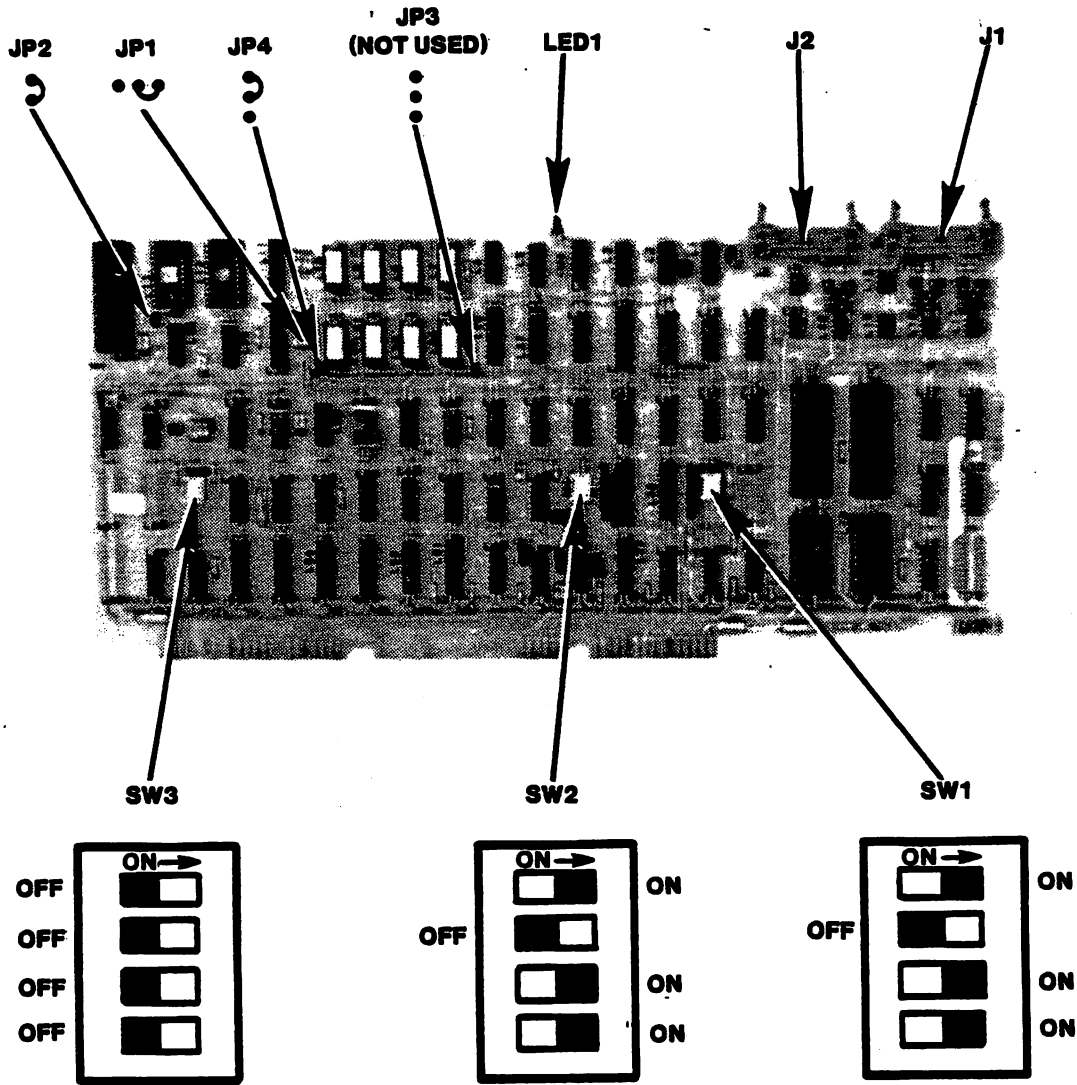

Figure 2. Option W Board Jumper and Switch Locations
5. As shown in Figure 2, set switches on the 7846 board as follows:-
6. Check that the jumpers on the 7846 board are configured as shown in Figure 2.
11. Power ON the system. The 7846 option W board is equipped with a power-up diagnostic. The power-up diagnostic run time is approximately six seconds. LED 1 at the top of the 7846 board (See Figure 2) indicates a GO or NO GO diagnostic condition as follows.